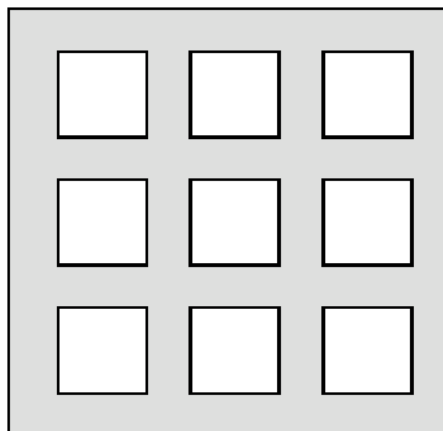

Figure 24. Solder Paste Application on Exposed Pad
3. For the PCB thermal pad, solder paste should be printed on the PCB by designing a stencil with an array of smaller openings that sum to 50% of the QFN exposed pad area. Solder paste should be applied through an array of squares (or circles) as shown in Figure 24.